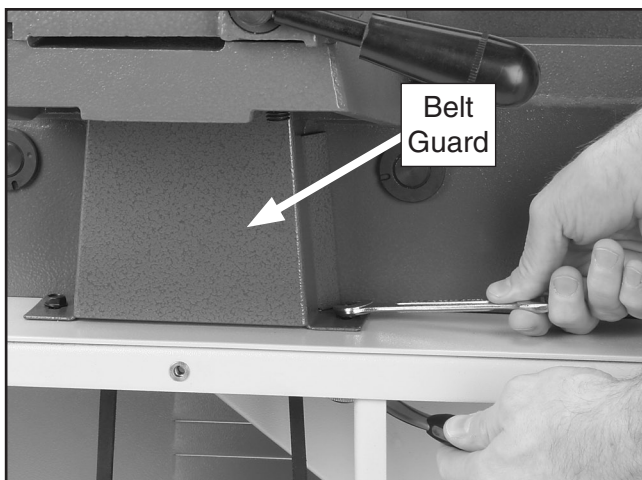

Figure 9. Installing belt guard.
8. Install the belt guard with the flange bolts, washers, and hex nuts (**Figure 9**).